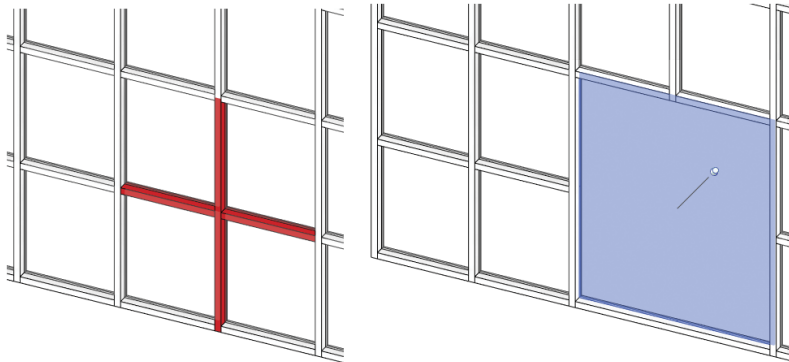

FIGURE 2.28 Removed curtain wall grids and mullions
4. The tool stays active so you can click the other vertical red curtain mullion to remove it. Repeat the steps to remove the remaining red horizontal curtain mullion, and you will end up with one panel, as highlighted in Figure 2.28.